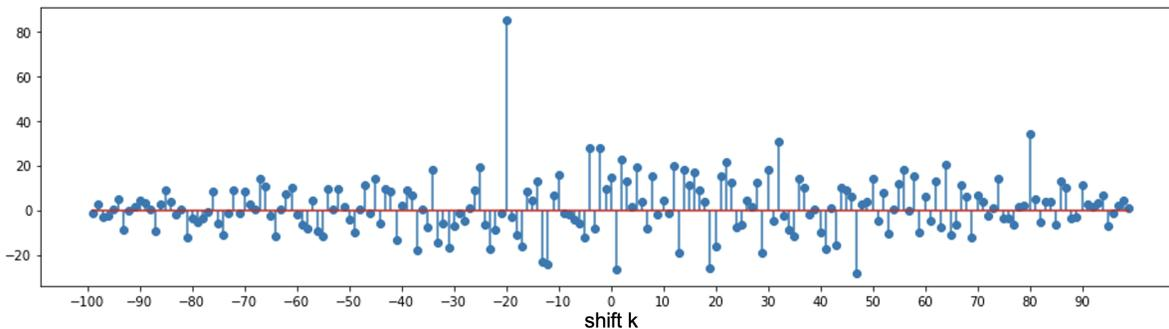
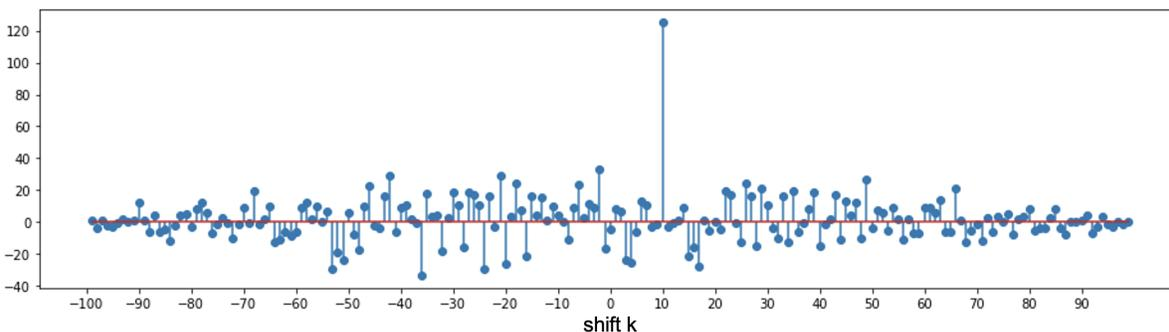

Figure 14: Linear cross-correlation plots for $\text{Corr}_{\vec{r}}(\vec{s}_1)$.
Figure 15: Linear cross-correlation plots for $\text{Corr}_{\vec{r}}(\vec{s}_2)$.
The linear cross-correlation $\text{Corr}_{\vec{r}}(\vec{s}_1)$ has been computed and plotted in Figure 14, and similarly $\text{Corr}_{\vec{r}}(\vec{s}_2)$ is plotted in Figure 15. **Determine the shifts for \vec{s}_1 and \vec{s}_2 in the received signal \vec{r} , i.e. solve for k_1 and k_2 in equation (3). Explain your answer.**